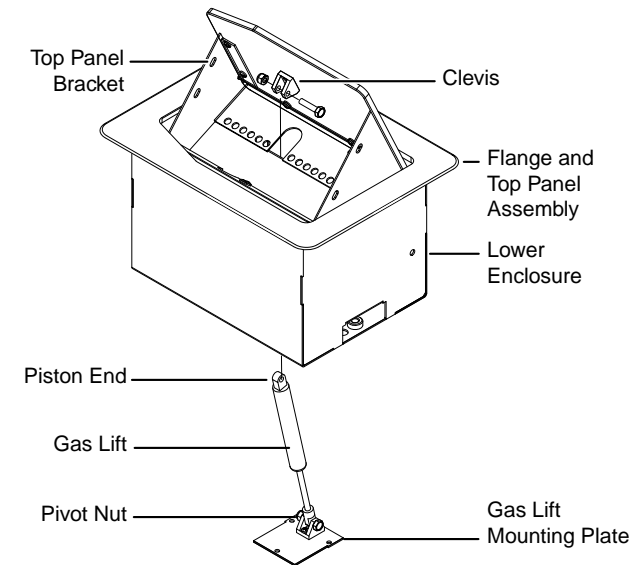

Figure 3-7 — Replacing the gas lift
4. Turn the gas lift mounting plate counterclockwise until the pivot nut on the plate comes free from the shaft of the gas lift (figure 3-7).